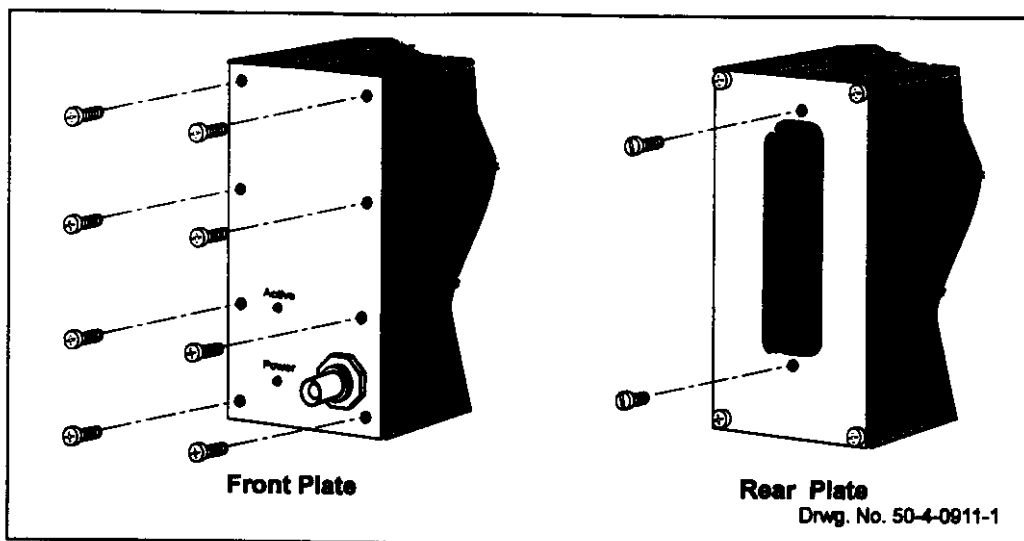

Figure 9.5: Module Face and Rear Plate Screws
1. Refer to steps (1) to (4) of Section 9.4.5 for wall mount cover removal details.
4. In the transmitter module faceplate undo each of the eight screws along the faceplate (see Figure 9.5). Put the screws in a safe place for refitting the PCB.
5. In the module rear plate, undo the two screws on either side of the connector that protrudes through the plate (see Figure 9.5). Put the screws in a safe place for refitting the PCB.
2. Using the two screws kept from the removal of the PCB, insert a screw into each hole in the PCB connector, do not fully tighten at this time (see Figure 9.5)
3. Using the eight screws kept from the removal of the PCB, insert a screw into each hole in the module faceplate; (See Figure 9.5). Ensure all screws are securely fastened in the module front and rear plates.
6. Refer to steps (6) to (10) of the wall mount procedure in Section 9.4.5 Mechanical Access for cover replacement details.